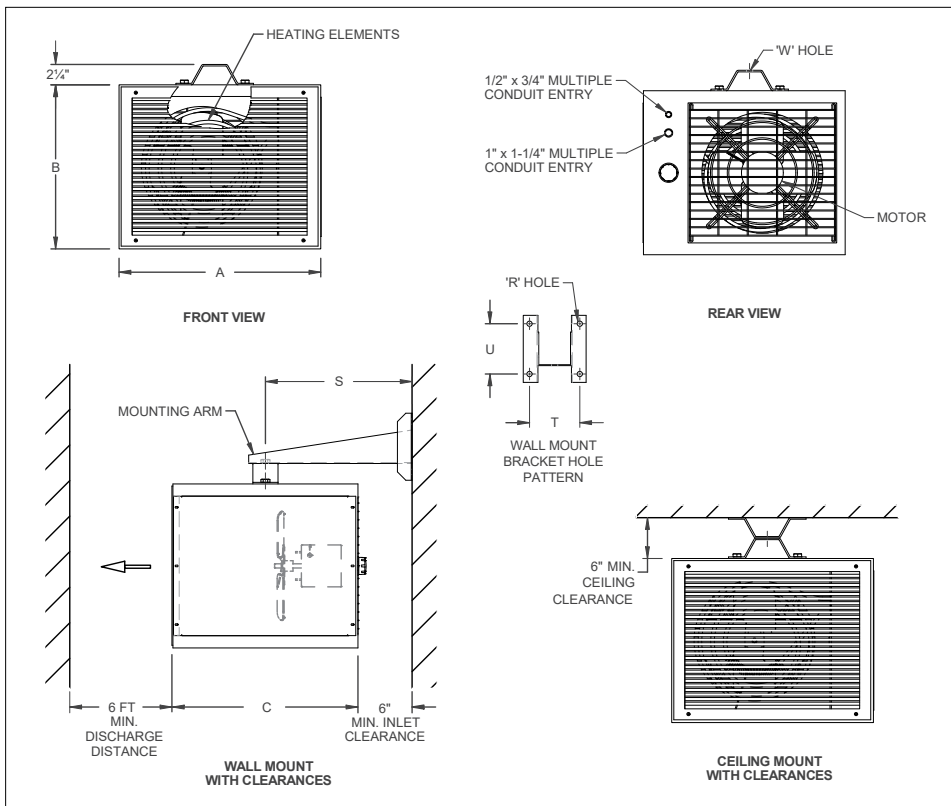

Figure 1 – Mounting Clearance
1. Ensure there are no obstructions that may impede the heater's air inlet or discharge. Refer to Figure 1 – Mounting Clearance, page 4, for minimum clearances.